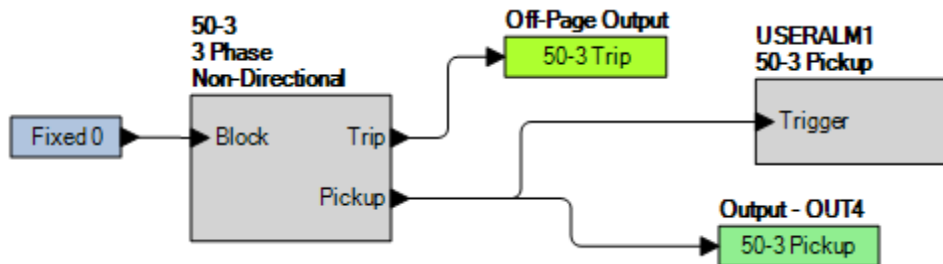

Figure 2-21. OUT4 and USERALM1 with User-Defined Labels
Step 15: Figure 2-21 shows the user-defined labels of OUT4 and USERALM1 that were named in Step 13 and Step 14.